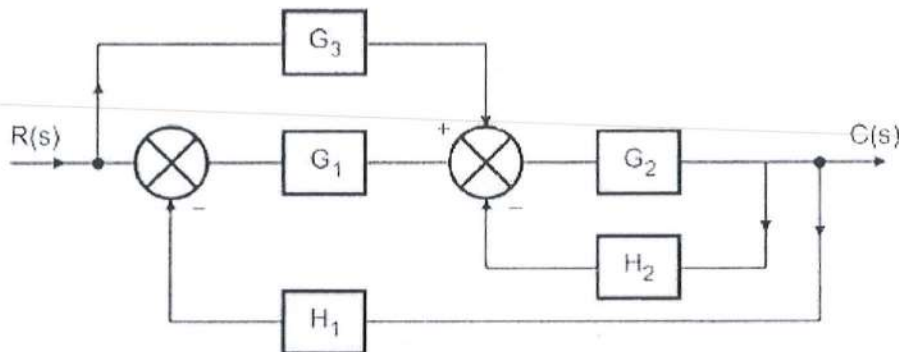

Figure 3
- 5.a) Reduce the given block diagram and hence obtain the transfer function (figure 3).